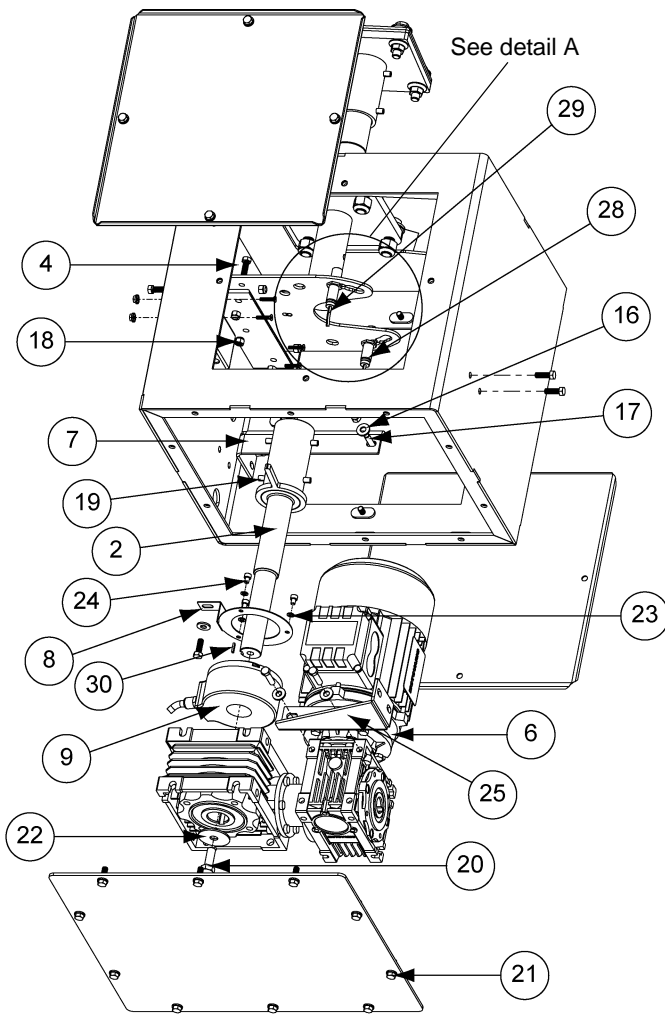

Figure 4AA
It is recommended that two (2) people perform this procedure. One person to operate the manual/jog dial (A) and another to look through the distributor and verify alignment of the spout. (See Figure 4AA.)